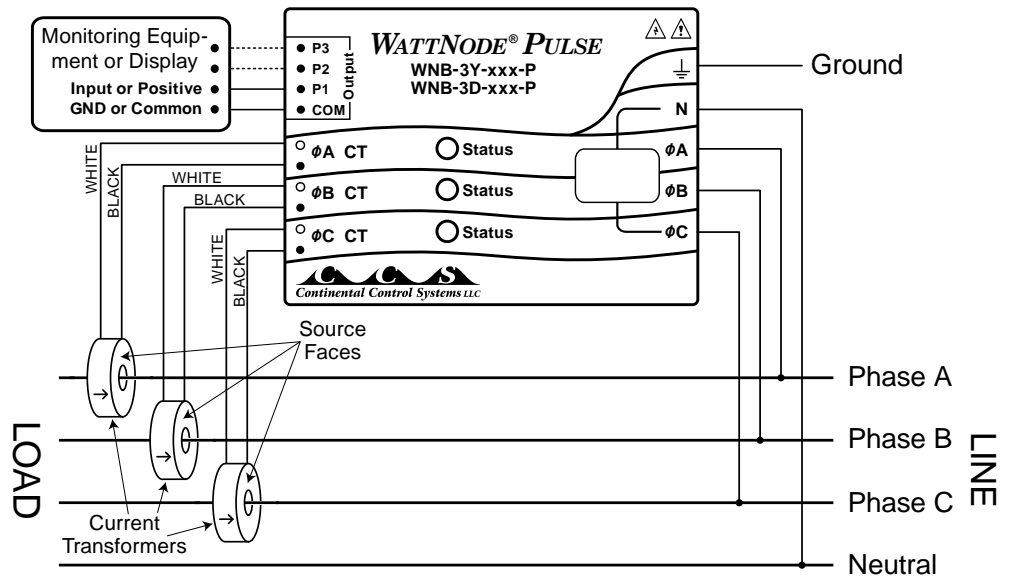

Figure 1: WattNode Wiring Diagram
**Figure 1** above shows the connections for a three-phase wye circuit. Other circuit types are similar, but with fewer connections (no neutral for delta, no phase C for single-phase three-wire 120V/240V). See the full manual for more diagrams.
To install the CTs, pass the conductor to be measured through the CT and connect the CT leads to the meter. **Always remove power before disconnecting any live wires.** Put the line conductors through the CTs as shown in **Figure 1** above.
The screw terminals handle wire up to 12 AWG. Prepare the voltage wires by stripping the wires to expose 1/4" (6 mm) of bare wire. Connect each voltage line to the green terminal block as shown in **Figure 1** above. Verify that the line voltage phases match the CT phases. After the voltage lines have been connected, make sure both terminal blocks are securely installed on the meter.
The WattNode pulse outputs may be connected to most devices that expect a contact closure or relay input. See **Figure 1** above for a basic connection. See the "**Installation and Operation Manual**" for more complex connection information.